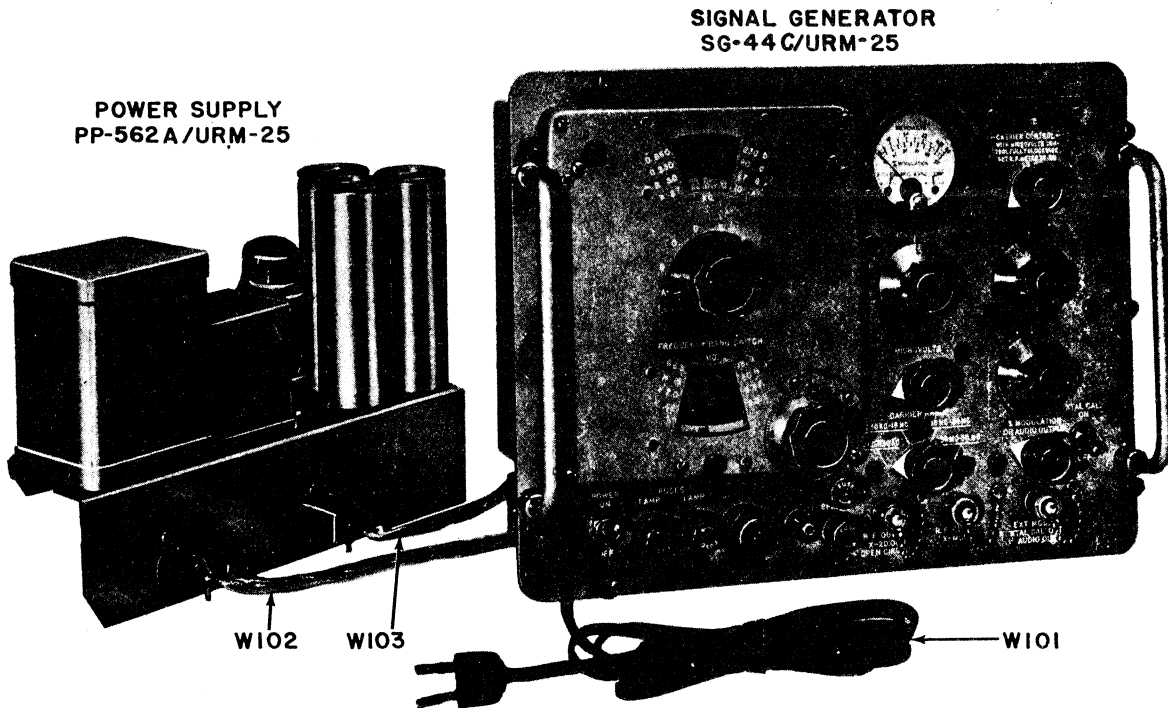

Figure 6-4. RF Signal Generator SG-44C/URM-25 and Power Supply PP 562A/URM-25 Connected Outside Cabinet for Testing
(2) With the signal generator and power supply sub-assemblies removed from the cabinet, the equipment can again be connected for use and testing by applying the following procedure (See figure 6-4).